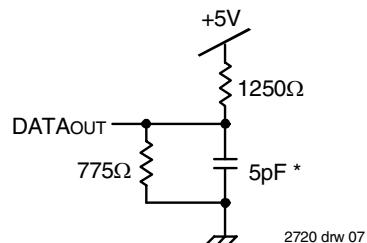

Figure 2. Output Test Load
1. Transition is measured 0mV from Low or High-impedance voltage with the Output Test Load (Figure 2).
- Transition is measured 0mV from Low or High-impedance voltage with Output Test Load (Figure 2).